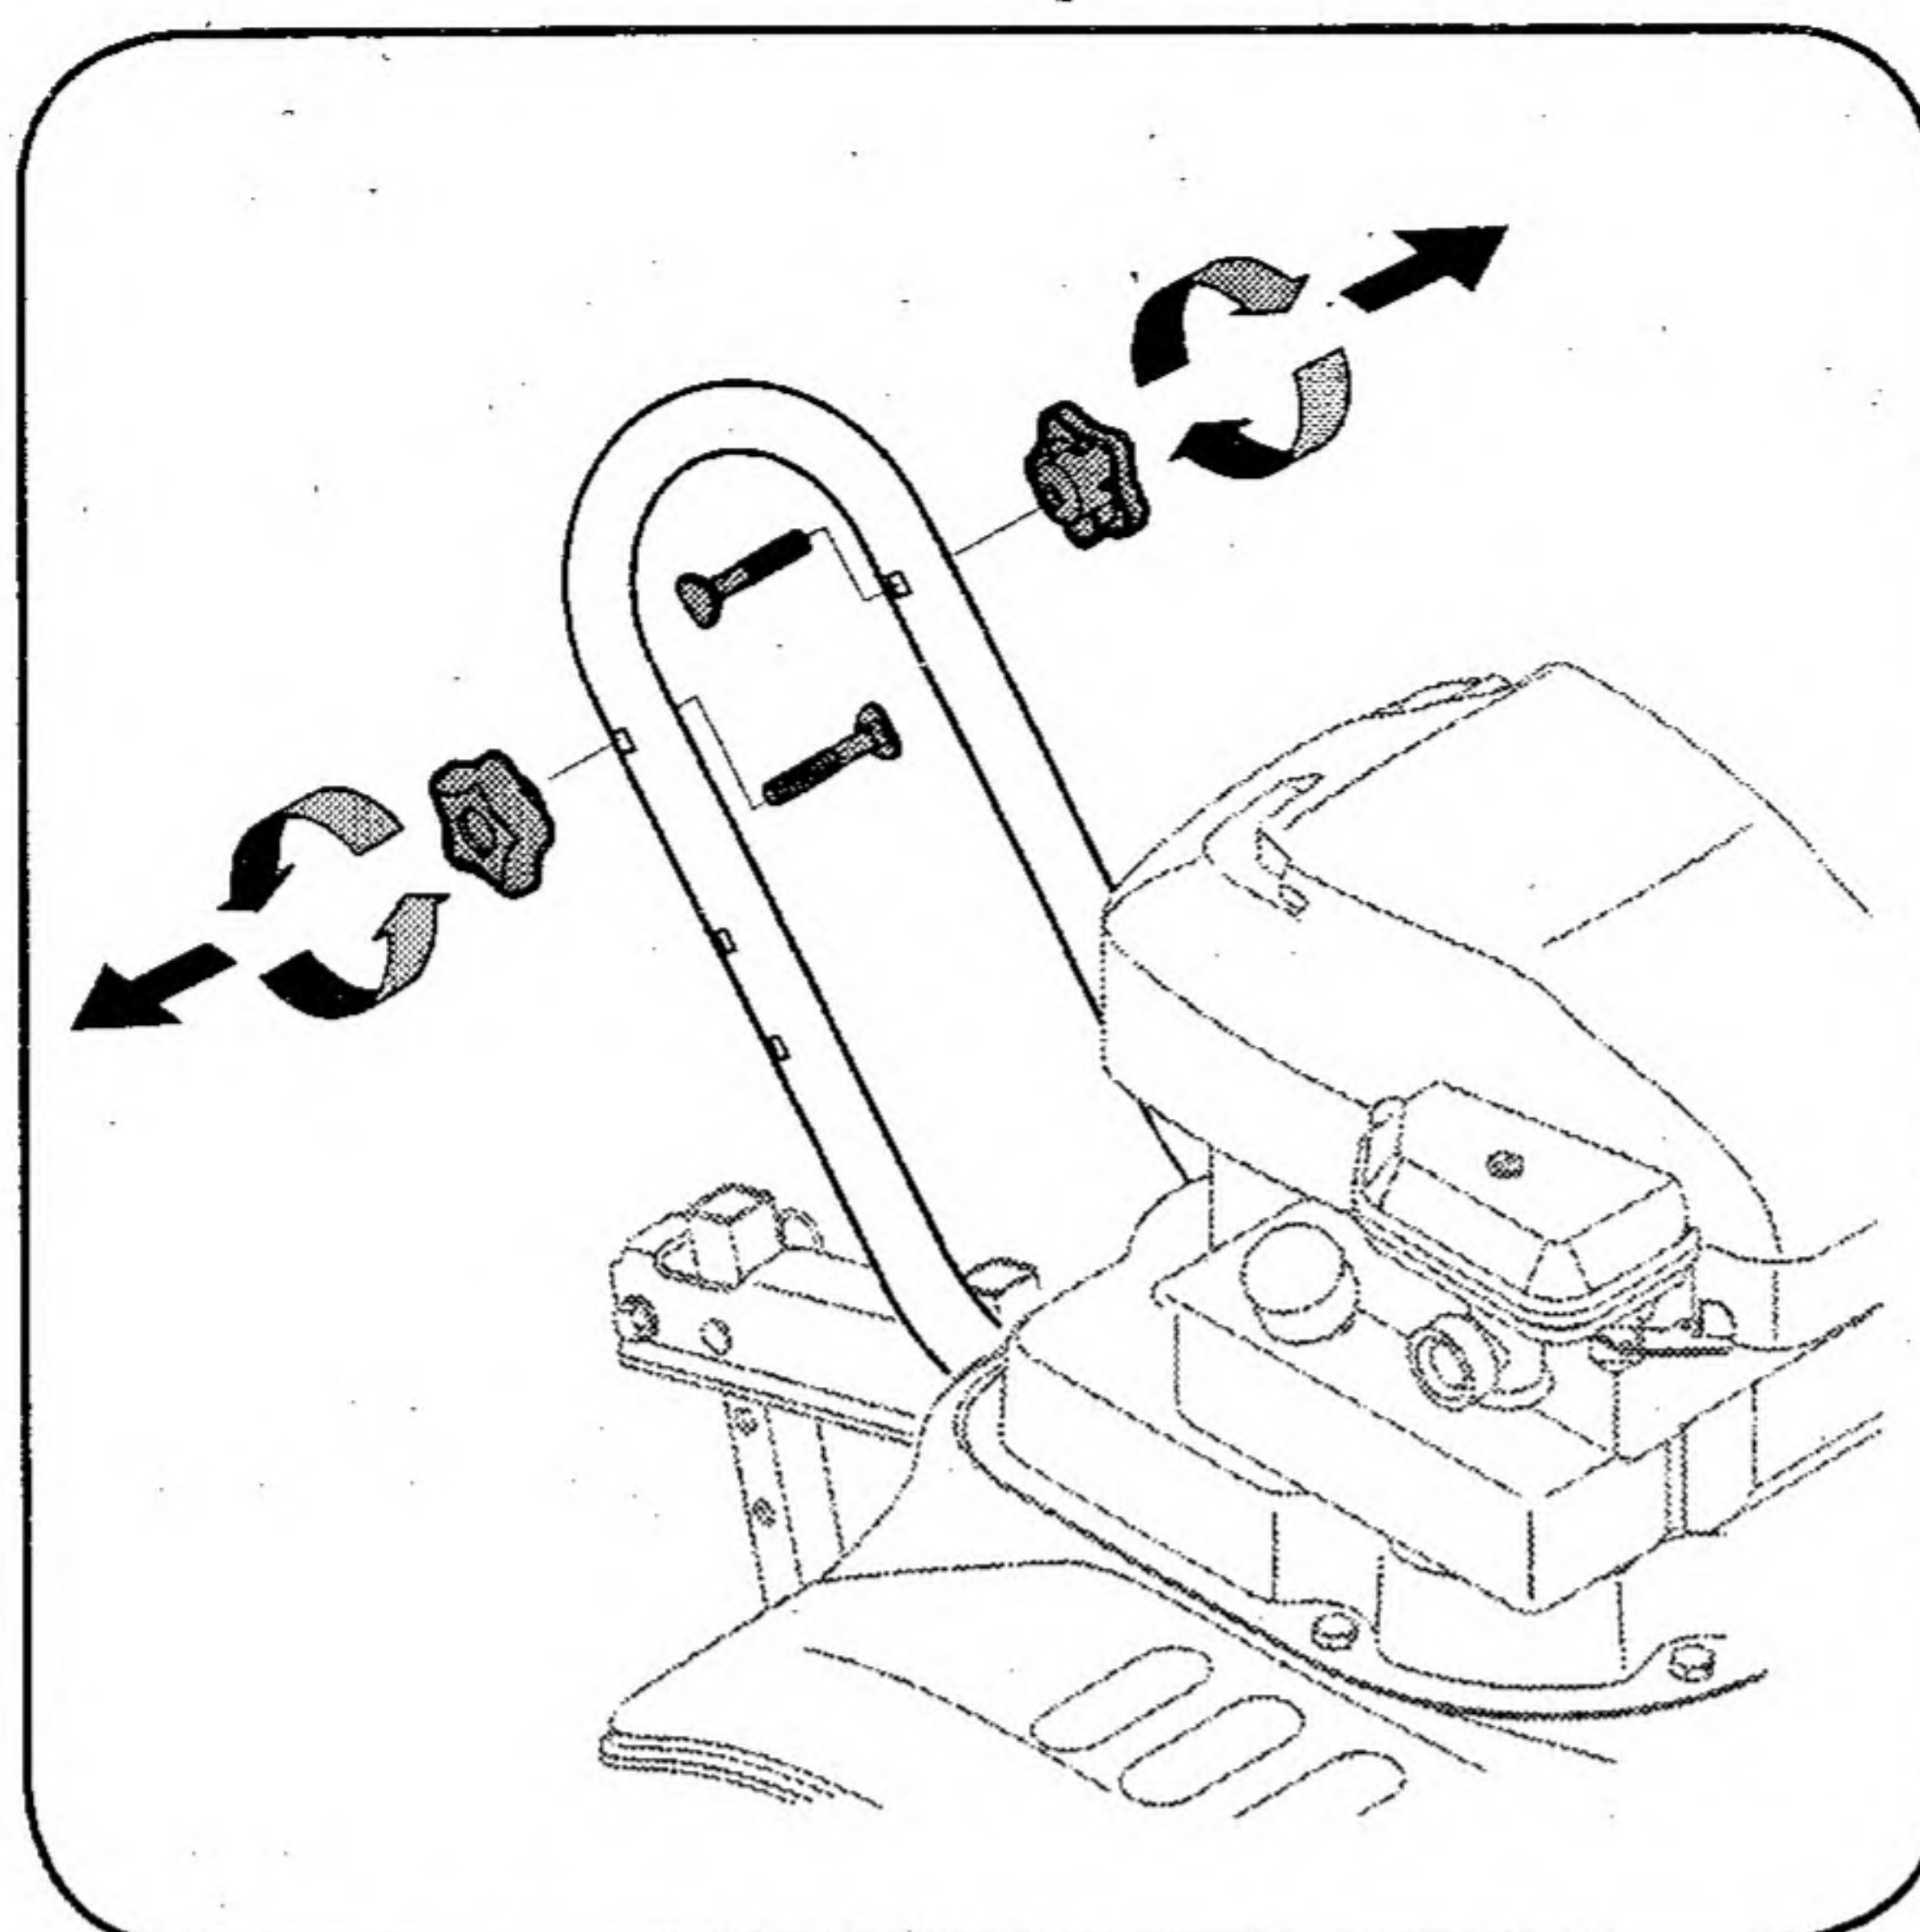

Figure 3-1: Remove hardware from lower handle.
1. Remove the star handle knobs and carriage bolts from the lower handle, Figure 3-1.